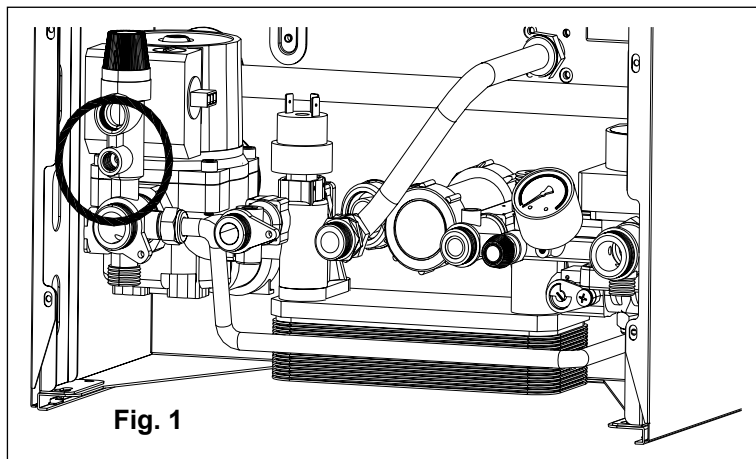

Fig. 1
- Open the system drain valve (fig. 1).